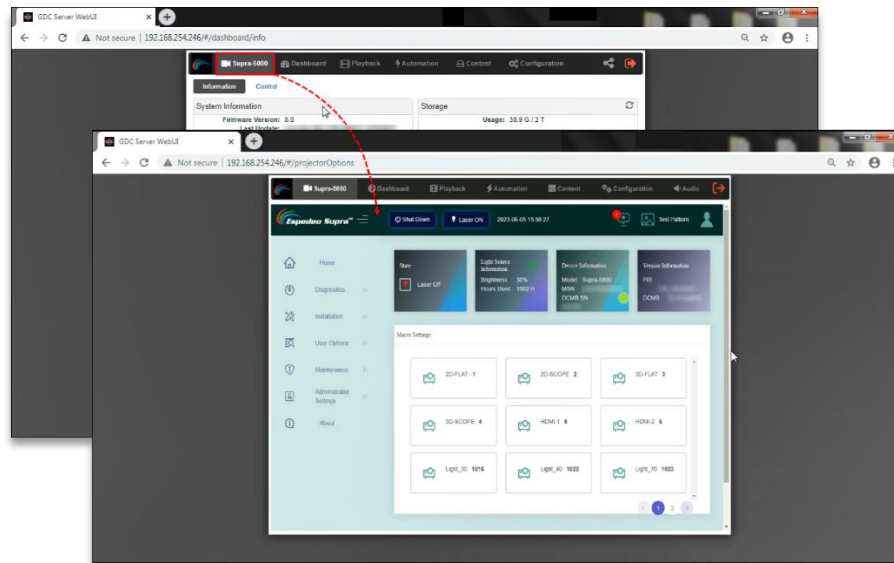

Figure 21: Accessing Supra Command Center when Single tab mode is enabled
- a. When the **Single tab mode** option is enabled; you can access the Supra Command Center web interface within the DCMB Web UI by clicking on the **'Supra-5000'** tab (as shown in **Figure 21**).